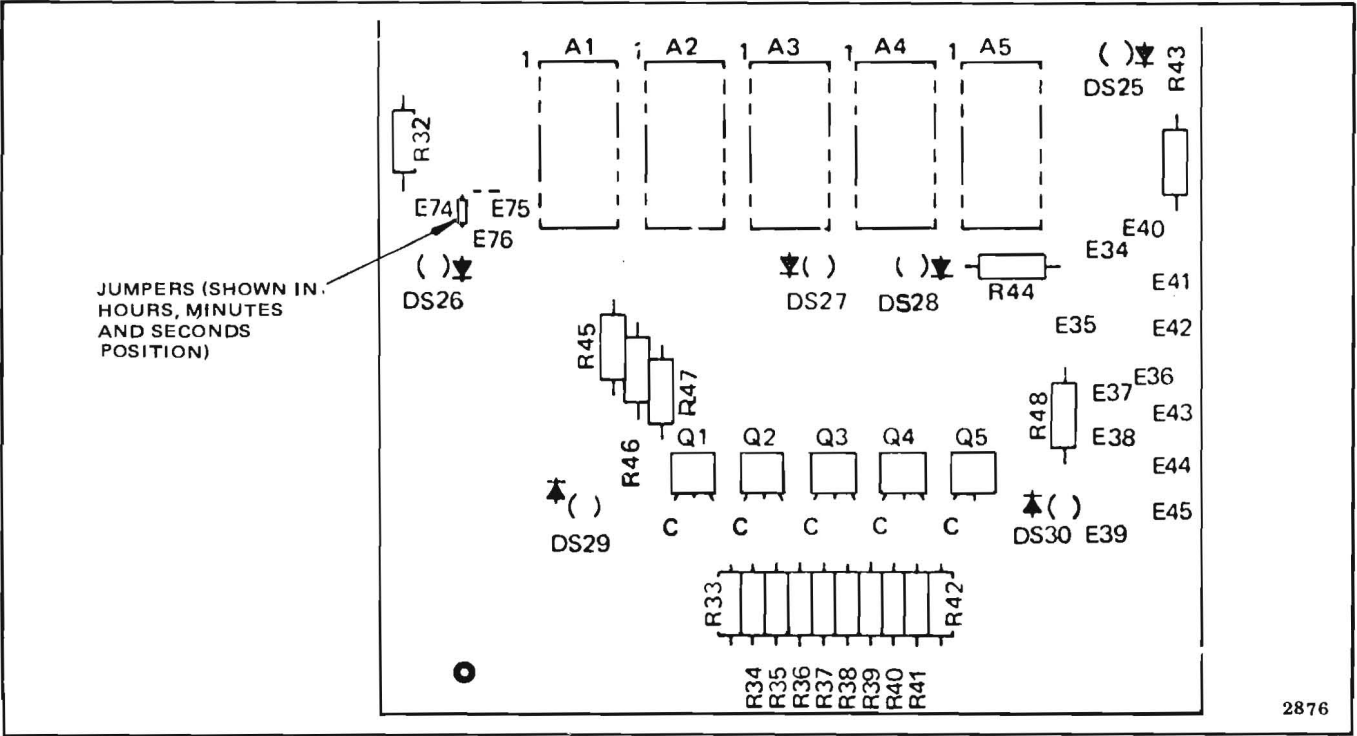

Figure 2-24. Tape Timer Display Selection Jumper, Control Unit PWA No. 1
9. Remove jumper on the component side of the board installed between E74 and E76 (Figure 2-24) and install between E74 and E75. Solder in place.